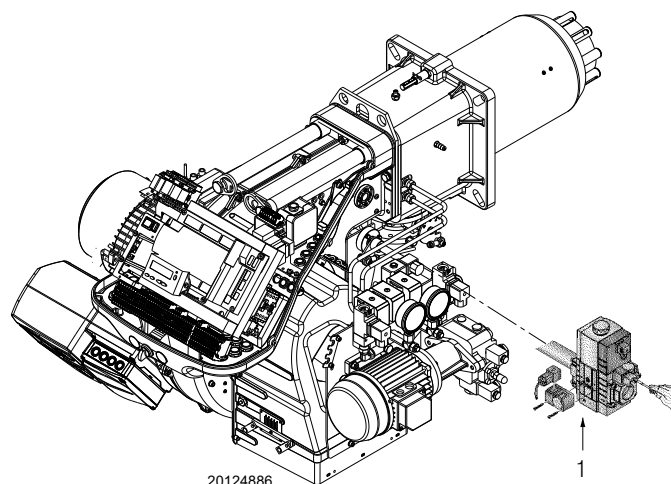

Fig. 43
- Check the gas supply pressure by connecting a pressure gauge to the pressure test point 1)(Fig. 43) of the minimum gas pressure switch: it must be lower than the maximum allowed pressure of the gas train, as shown on the characteristics label.
- Bleed the air from the piping of the gas train, connecting a plastic tube to the pressure test point 1)(Fig. 43) of the minimum gas pressure switch. Take the vent tube outside the building so you can notice the smell of gas.